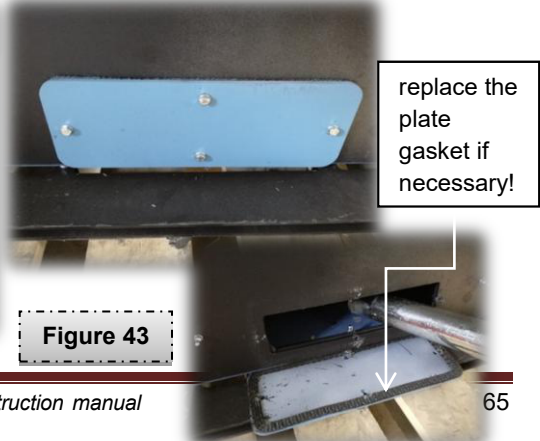

Figure 43
2. cleaning the channel according to the *Figure 43*.